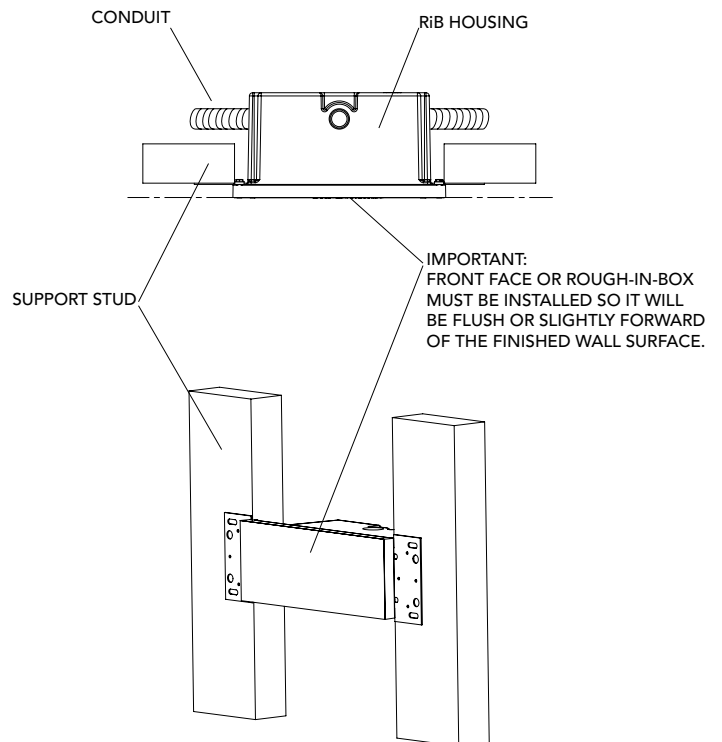

Figure 2
3. Secure the RiB housing mounting brackets using fasteners (by others) to support studs (fig. 2).
4. Connect conduit to RiB housing (fig. 2).